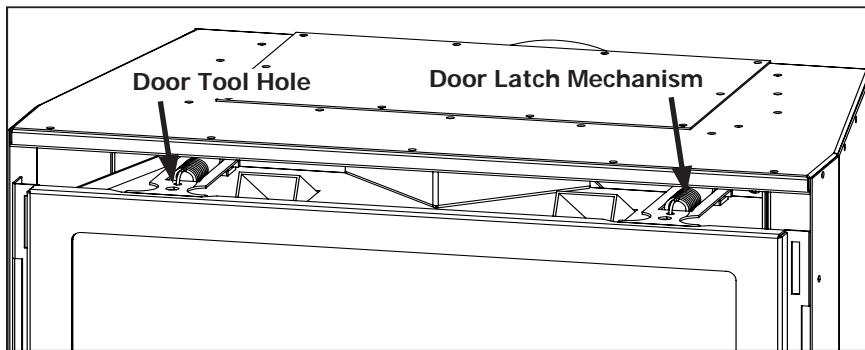
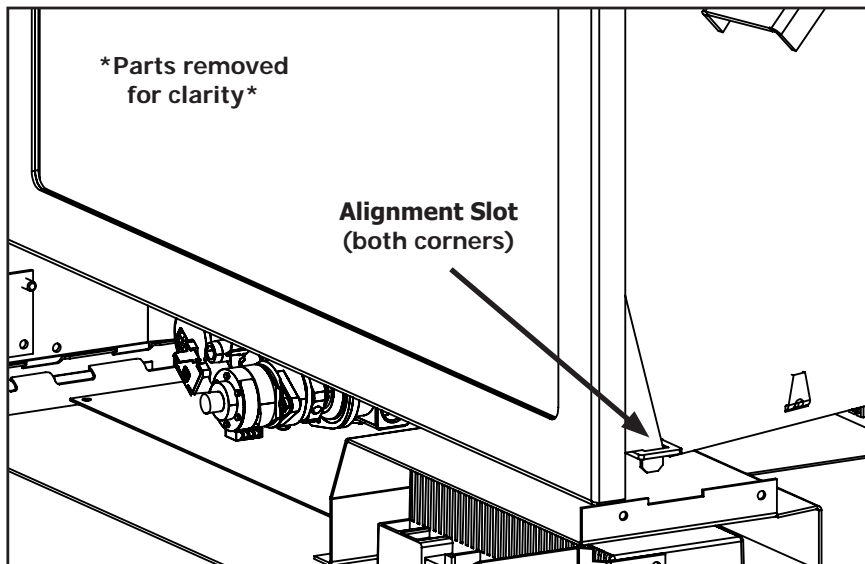

Figure 17: Top Latches for Glass Door
Figure 18: Bottom Alignment Slots for Glass Door
In order to install the log set, and for regular cleaning, the safety screen and glass door must be removed. There are two (2) door latch mechanisms, located behind the safety screen, on top the glass door as shown in Figure 17. Each latch has a hole at the front to use the door tool, supplied with the unit, to pull the mechanisms straight out and up. When the top latches are unhooked, lean the door forward and then lift it up out of the alignment slots at the bottom corners of the firebox, shown in Figure 18.